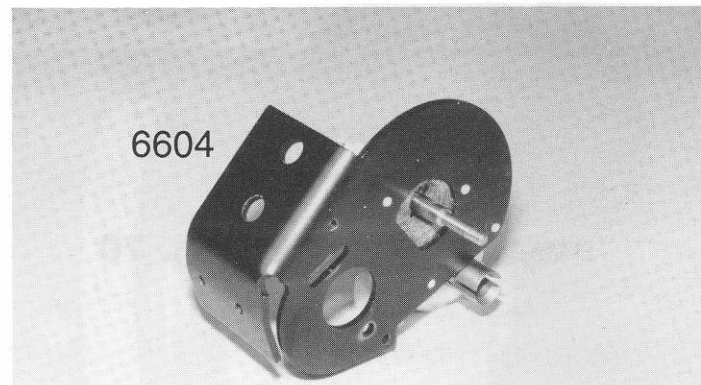

**Fig. 65**
□ **Figs. 65 & 66** Back in bag C you will find four #6569 motor plate spacers, and one case dust end cap on a small molded parts tree. Remove the five parts from the tree. Now set the end cap aside; we will use it in a few moments. In bag F you will find the #6566 felt dust seal. Carefully remove the cutouts from the felt seal so that we can install three of the #6569 motor plate spacers into the appropriate holes as shown. Install the spacers so that the small ends will go into the case holes on the right case half as shown in fig. 66.